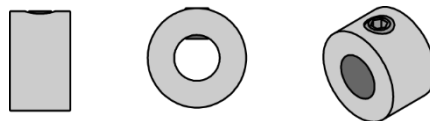

Figure 19: 6mm Shaft Collar
Shaft collars are used to prevent lateral (sideways/sliding) movement of a shaft, or an item on the shaft. A shaft collar is a hollow cylinder with one more set screws which tighten towards its center and an inner dimension (ID) that is just slightly larger than the shaft it is being used on (Figure 19). Since shaft collars are used to prevent lateral shaft movement they are often used in place of shaft spacers.
Product material selection is noted in Figure 19. Traction wheels are co-molded with a polyurethane tread for increased traction.